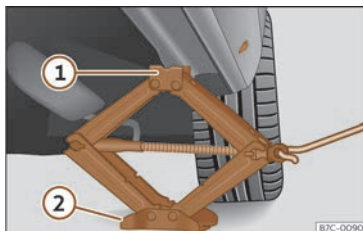

Fig. 235 Crossbar: mounting the jack on the vehicle.
- Turn the jack crank handle, located below the strut support point, to raise it until the tab **①** >>> **Fig. 235** is below the housing that is provided.
- Align the jack so that the tab **①** "grips" onto the housing provided on the cross member and the mobile base **②** is resting on the ground. The base plate **②** should fall vertically with respect to the support point **①**.